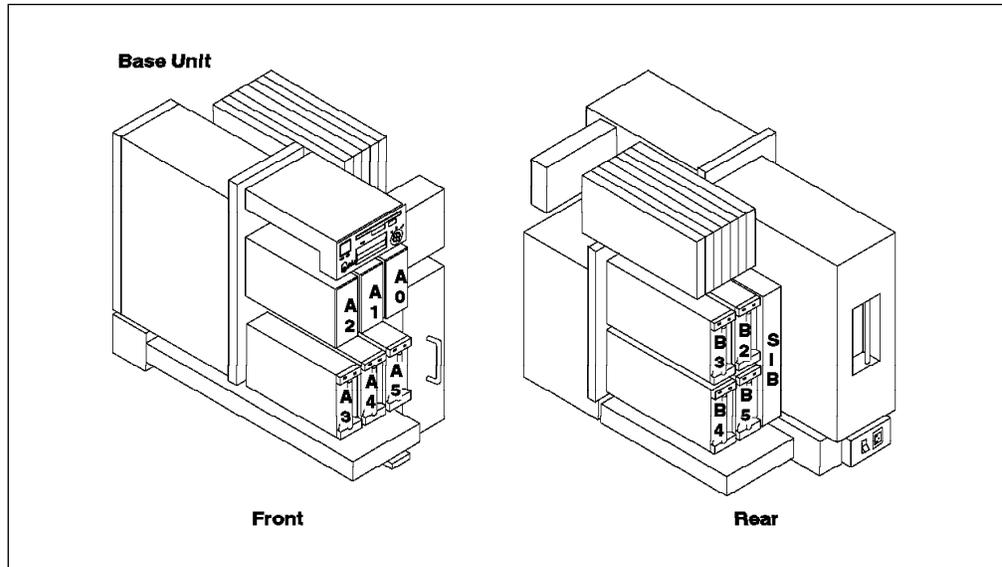

Figure 51. Front and Rear SCSI Devices Locations on the J30 Server
Figure 51 on page 86 shows that devices on the front are connected to the first SCSI-2 Differential F/W controller (A), and the disks on the back are connected to the second SCSI-2 Differential F/W controller (B).